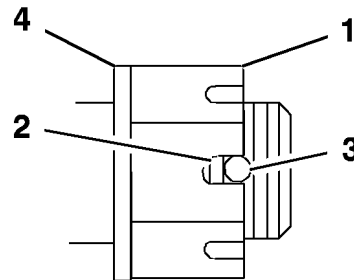

Figure 48
4. Torque the slotted nut to 125 ft-lb (170 N·m) (Figure 48).
5. Check the distance from bottom of slot in nut to inside edge of hole. Two threads or less should be showing (Figure 48).
7. Torque the slotted nut to 125 ft-lb. (170 N·m) (Figure 48).
8. Tighten the nut until the next set of slots line up with the hole in the shaft (Figure 48).